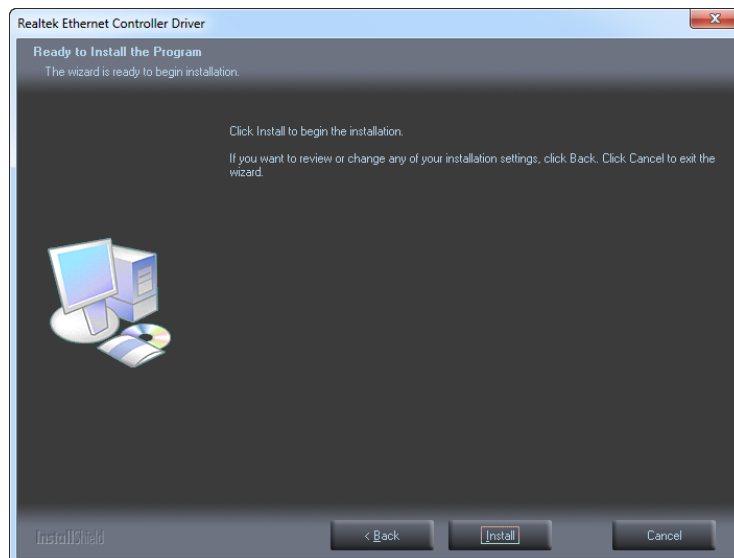

Figure 8-19: LAN Driver Ready to Install Screen
Step 6: The **Ready to Install the Program** Screen in **Figure 8-19** appears.